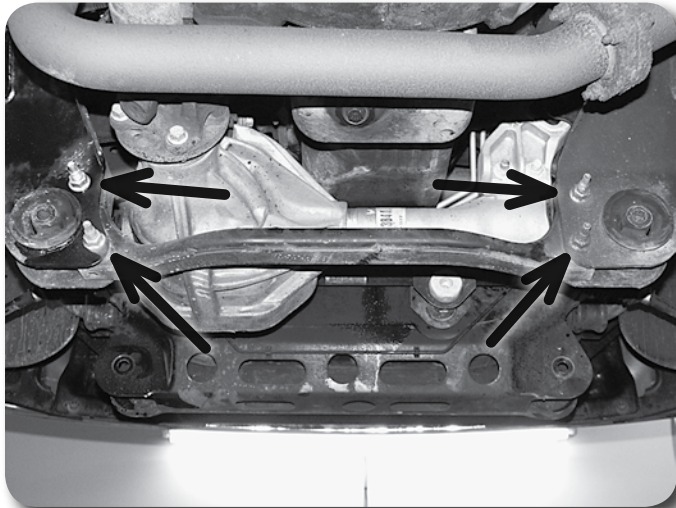

Figure 11
24. Remove the four bolts mounting the factory rear crossmember to the frame rails and remove the crossmember from the vehicle **Figure 11**.